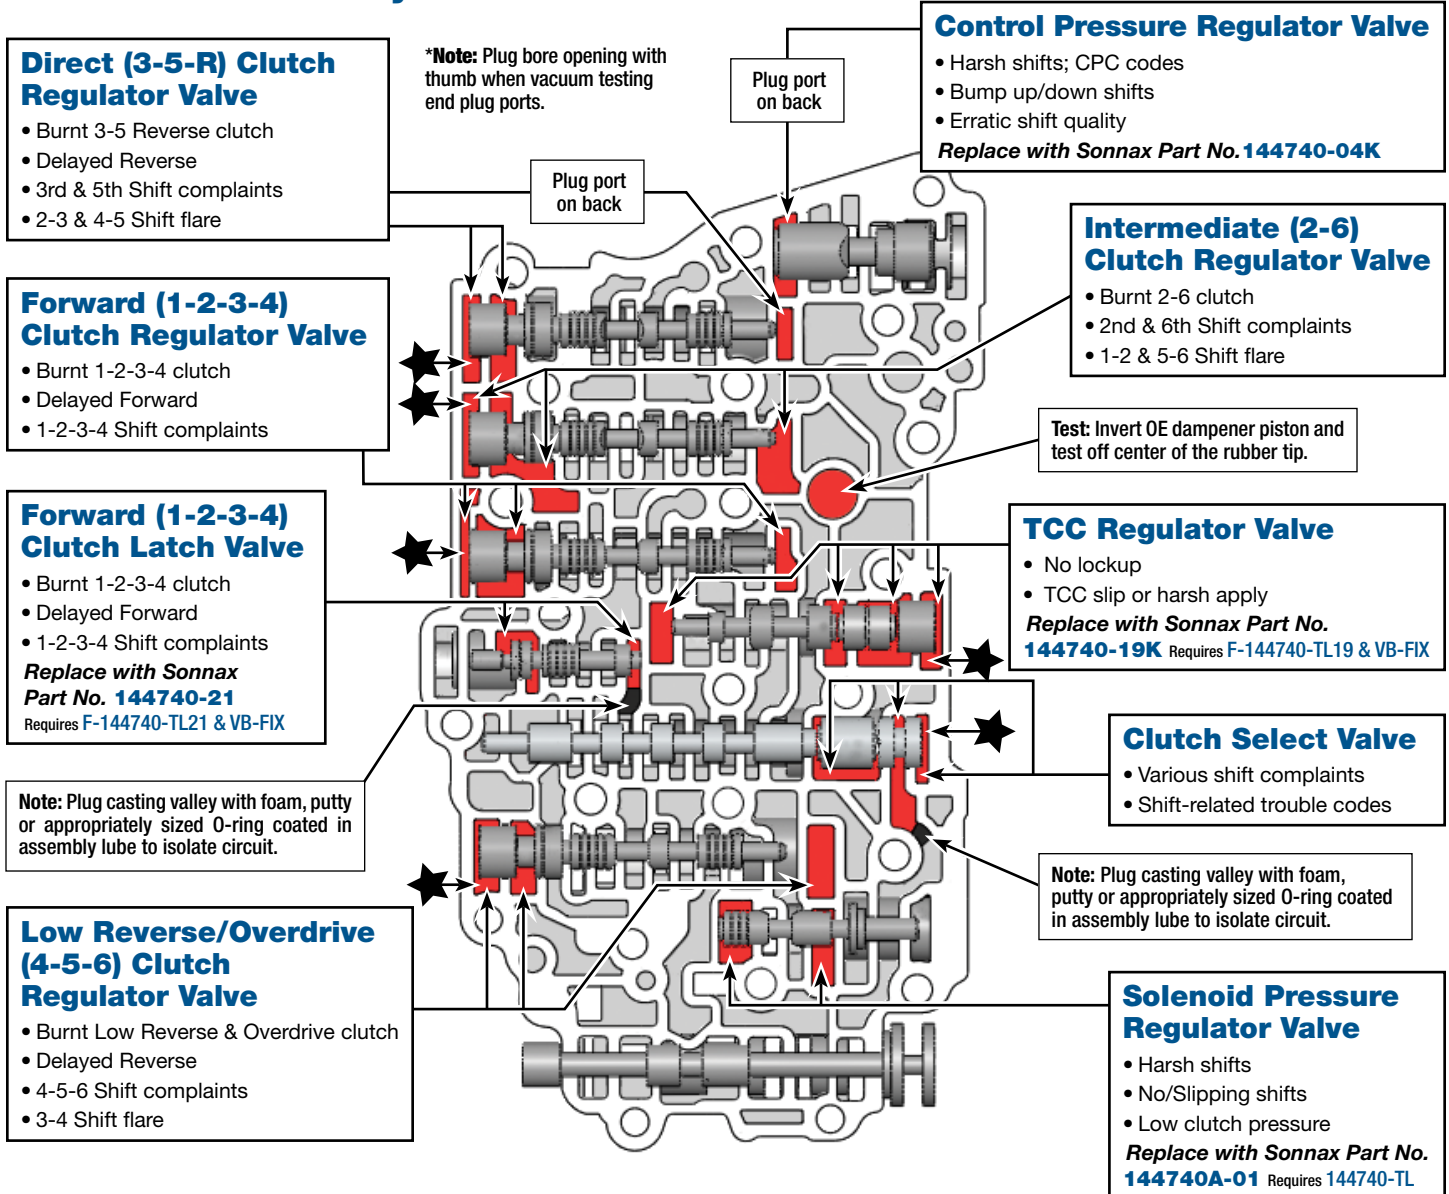

Figure 14
- d. To remove separator plate from solenoid body, remove two bolts (Figure 14).
- a. Bolt separator plate to solenoid body using two bolts. Torque to 89 in-lb (Figure 14).